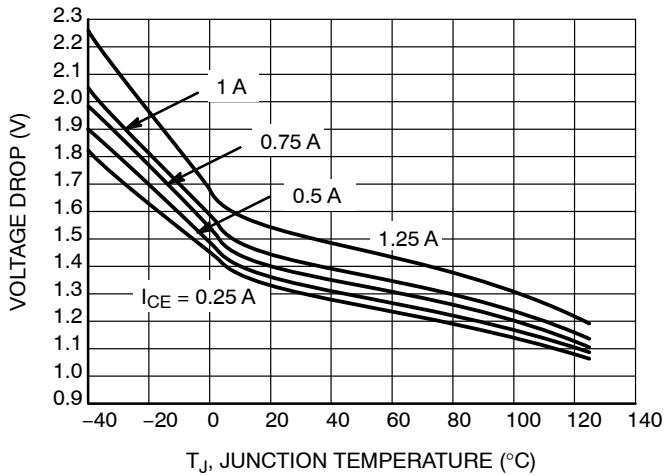

Figure 7. Emitter Follower Configuration Output Darlington Switch Voltage Drop vs. Temperature
8. V_{SWCE} – Darlington Switch Collector to Emitter Voltage Drop, refer to Figures 7, 5, 8 and 9.